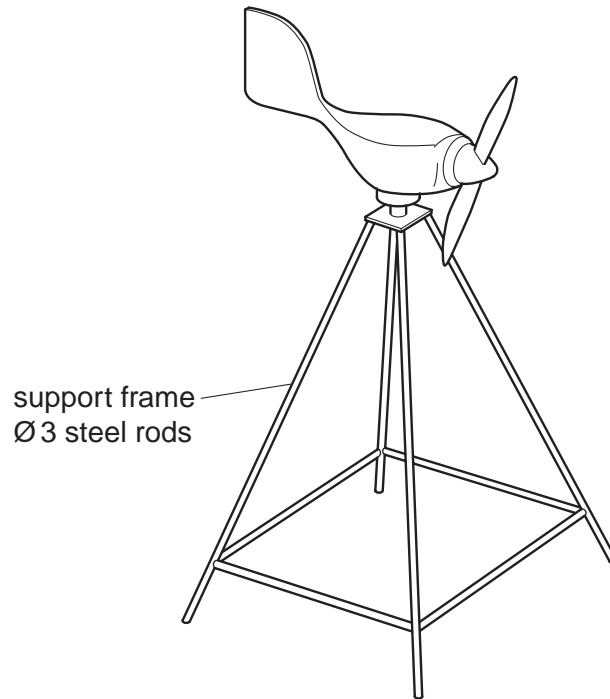

Fig. 4
2 Fig. 4 shows a model wind powered generator.
- (a) (i) Label on Fig. 4 **one** part of the support frame which is in tension. [1]
- (ii) Label on Fig. 4 **one** part of the support frame which is in compression. [1]